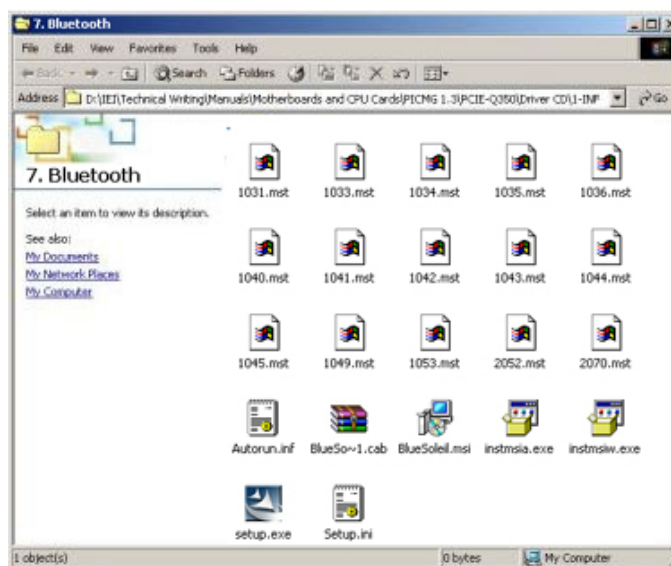

Figure 7-30: Bluetooth Driver Icon
Step 2: A new window opens (**Figure 7-30**). Click the **Setup.exe** to install the touch screen driver.